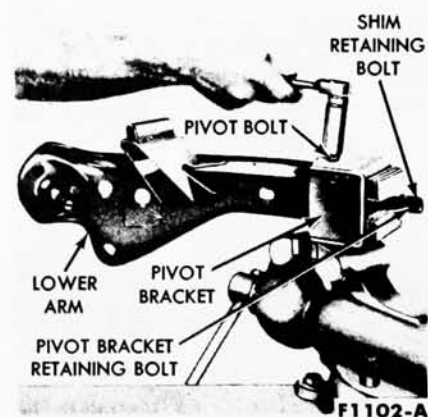

FIG. 10—Lower Suspension Arm Assembly
11. Place the assembly in a vise and remove the nut from the pivot bolt (Fig. 10). Remove the pivot bolt, and separate the pivot bracket from the lower arm.
place the assembly in a vise and install the pivot bolt nut (Fig. 10). Tighten the nut snug. Do not torque it until the lower arm assembly is installed in the car.
2. Slide the shims over the retaining bolts against the pivot bracket (Fig. 10), then mount the lower arm and pivot bracket assembly